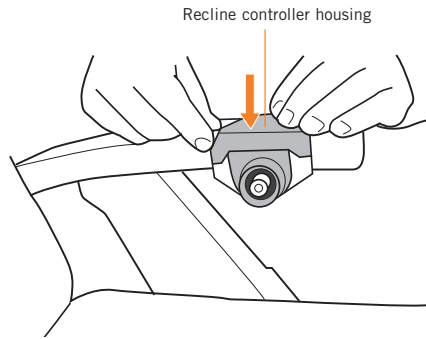

Fig.2
3. **PC-610:** Place the housing into position on the left-hand armrest as shown (Fig.2).